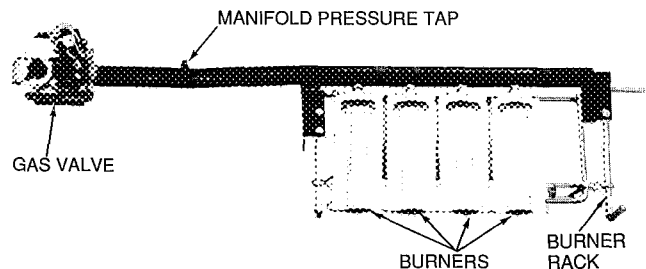

Fig. 39 — Burner Tray Details
12. Slide the burner tray out of the unit (Fig. 39).